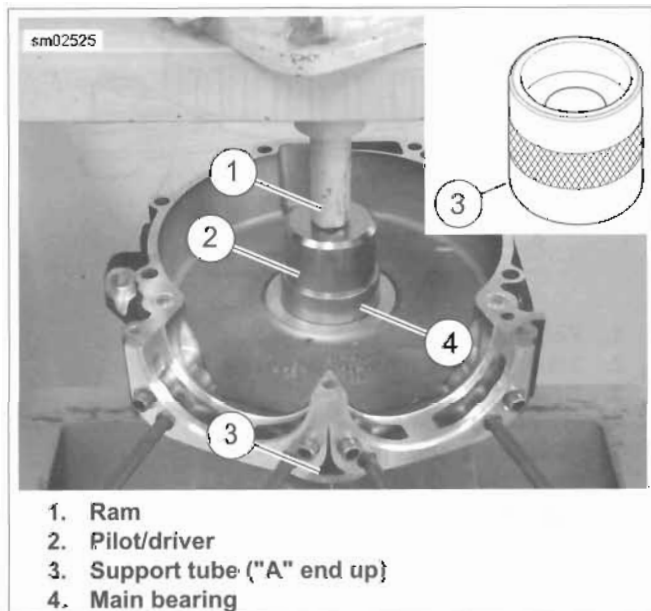

Figure 3-137. Left Main Bearing Installation
2. See Figure 3-137. Place a thin film of clean engine oil on outer diameter of **new** main bearing (4).
3. Place support tube (3) on hydraulic press table with the "A" end up.
6. Slide pilot/driver (2) through bearing into support tube.